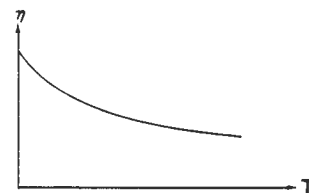

Figure 4-6
**THIXOTROPIC.** As shown in Figure 4-6, a thixotropic fluid undergoes a decrease in viscosity with time, while it is subjected to constant shearing.